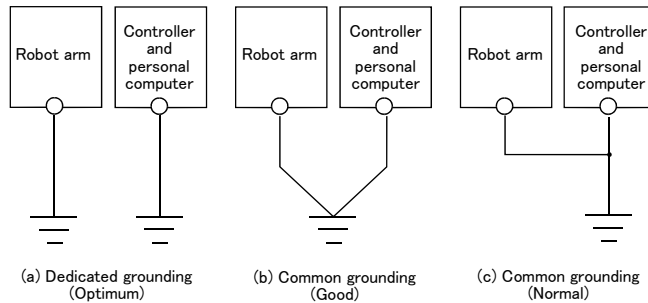

Fig.2-5 : Grounding methods
- 1) There are three grounding methods as shown in Fig. 2-5, but the dedicated grounding (Fig. 2-5 (a)) should be used for the robot arm and controller when possible. (Refer to the separate "Controller Setup, Basic Operation and Maintenance" for details on the controller grounding.)